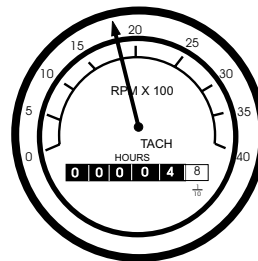

Figure 33. Engine Tachometer Gauge
- The **tachometer gauge** (Figure 33) will indicate the speed of the engine when the generator is operating.